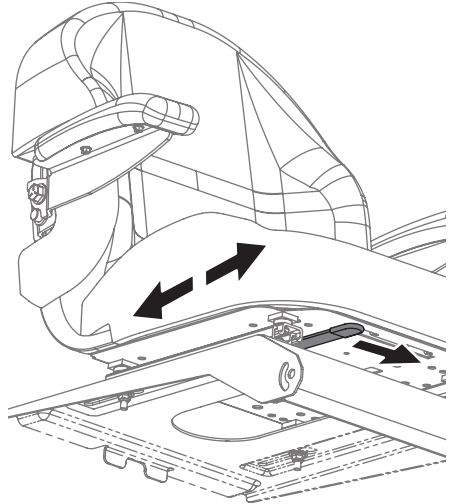

Figure 17
3. Release the adjustment lever. Ensure seat is locked into position before operation. See Figure 17.